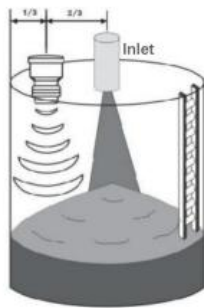

Figure 5
**7.1.5** In solids measurement the probe needs to be typically mounted 1/3 of the way from the side wall to the center inlet. This will form a cone when the material accumulates. The probe mounting position shown in Figures 5 and 6 will give an average level reading, which is the height of the level when the material is stacked flat. This is true for conical piles or concave pile surfaces that occur during discharge.